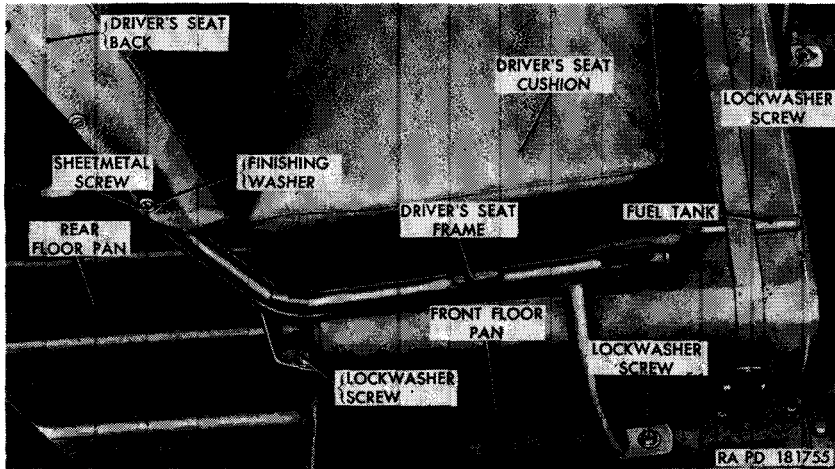

Figure 133. Driver's seat
*a. Driver's Seat (fig. 133).*
- (1) *Removal.* Remove the four lockwasher screws securing the seat frame to the front and rear floor pans and wheel panel and lift seat out of vehicle.
d. *Driver's Seat Cushion* (fig. 133).
(2) *Removal.* Remove driver's seat (a(1) above). Remove the two lockwasher screws securing the seat cushion to the seat frame. Pull out on seat cushion to disengage clips at rear of cushion from seat frame and remove cushion. Remove the 12 sheet metal screws and finishing washers securing the seat back to the seat frame and lift seat back off frame.